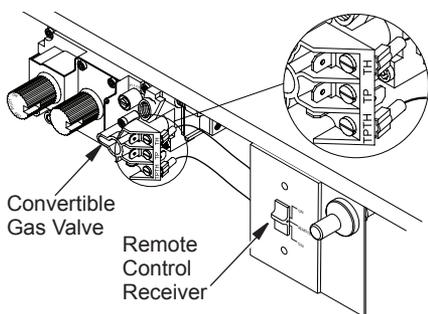

Figure 19 - Remote Control Receiver
1. Determine the route your vertical venting will take. If ceiling joists, roof rafters, or other framing will obstruct venting system, consider an offset (see Figure 19, page 15) to avoid cutting load bearing members.
The remote control receiver is factory wired and connected to the convertible gas valve as shown in Figure 19.